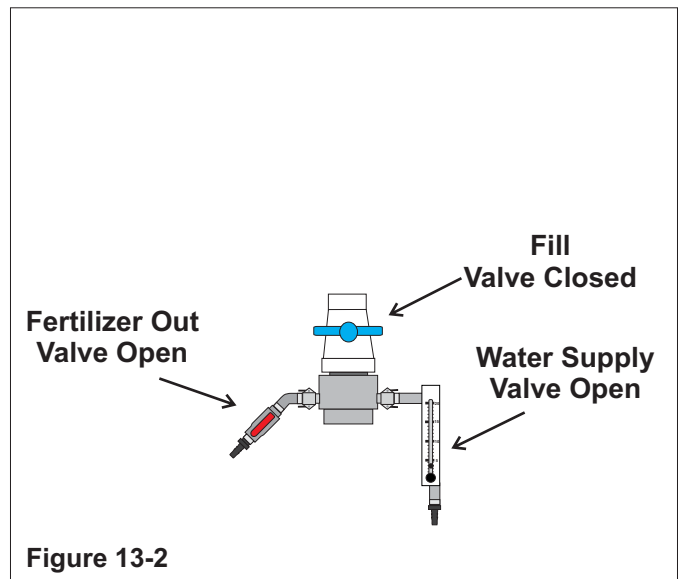

Figure 13-2
Step 4- Top off with water and close the fill valve (Figure 13-2)